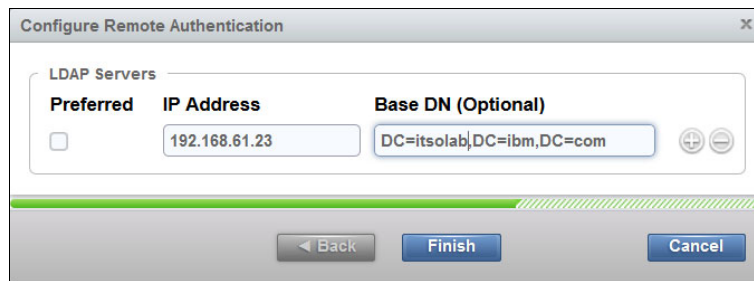

Figure 9-44 Remote Authentication wizard (step 4 of 4)
6. In the **Base DN (Optional)** field of the Configure Remote Authentication window (Figure 9-44), type the following text: